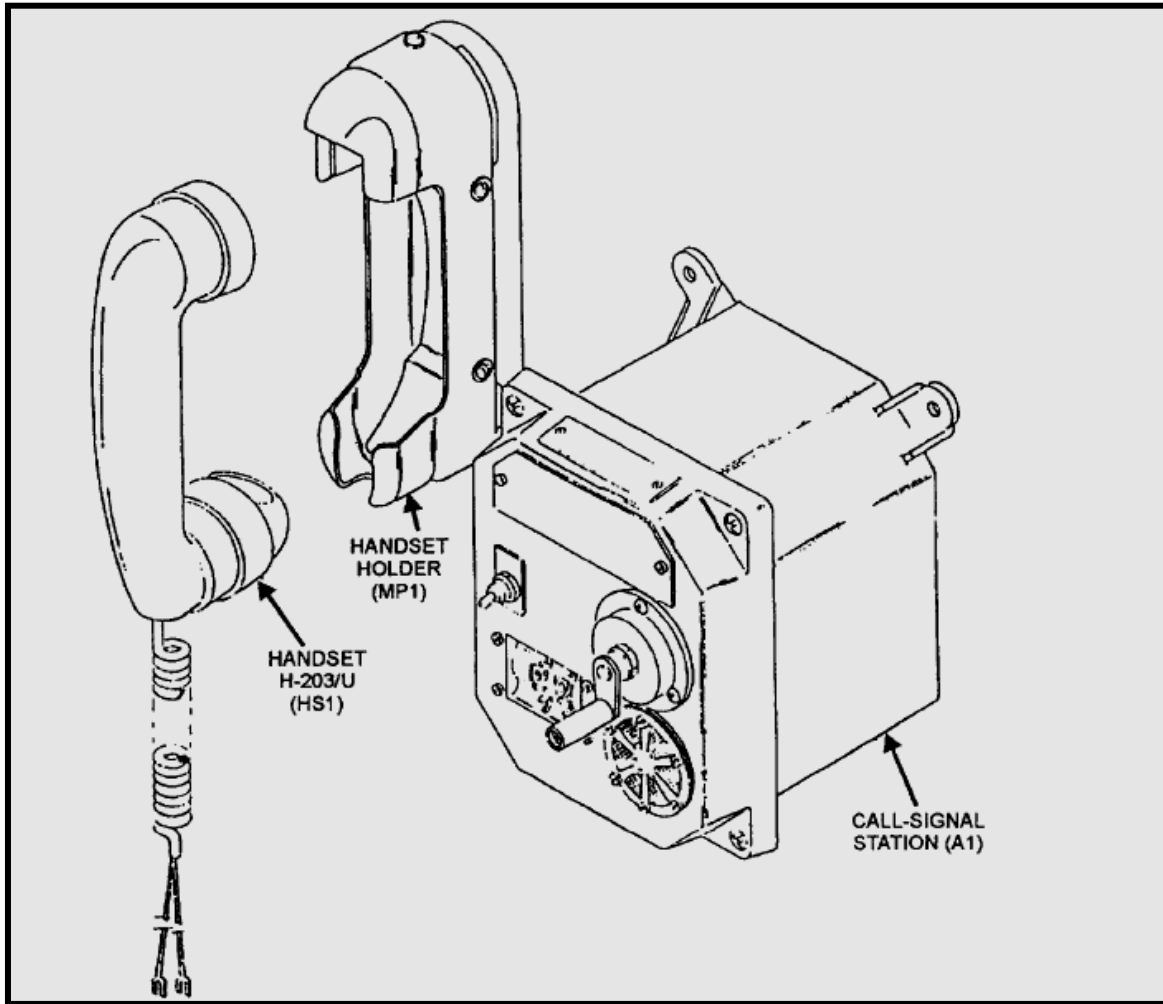

Figure 5-26.—The TA-975/WTC-2(V) sound-powered telephone set, unit 2.
**UNIT 2.**— Unit 2 (fig. 5-26) is similar to unit 1 except that the call-signal station has a front-crank hand ringing generator instead of a side-crank hand ringing generator.